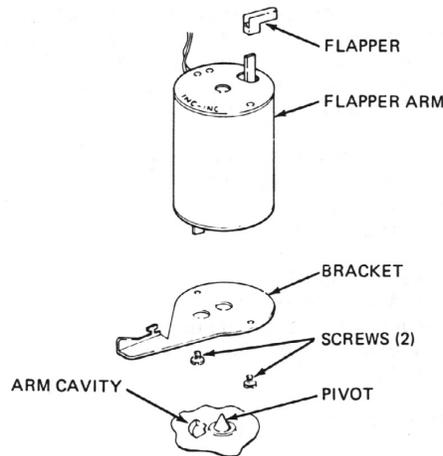

Figure 14.
8. Remove two screws holding bracket to bottom of motor. See Figure 14.